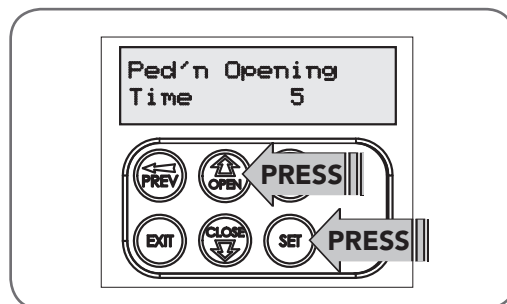

Fig 12.2
- a. Press OPEN to change the pedestrian access position time (Fig. 12.2).